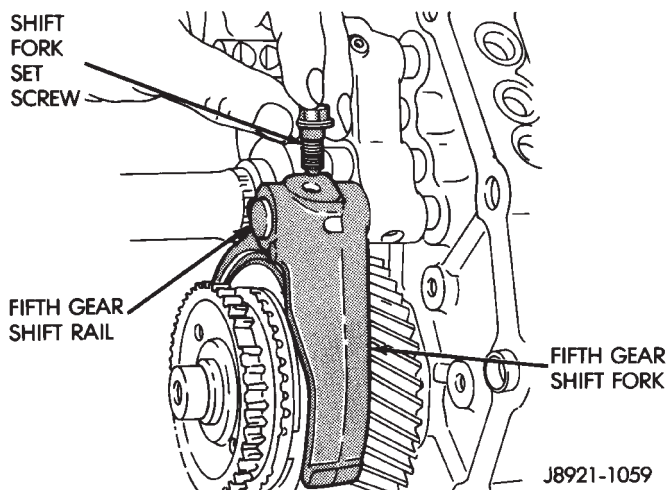

Fig. 53 Remove Fifth Gear Shift Fork Retainer Bolt
(4) Remove bolt holding fifth gear shift fork to shift rail (Fig. 53).